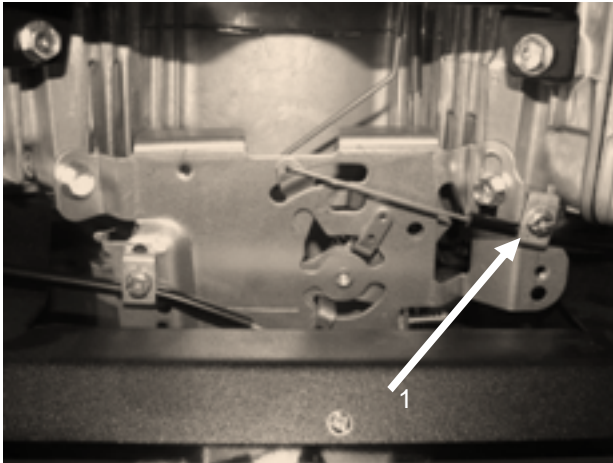

Figure 56
1. Using a 5/16 socket, loosen cable clamp end **Figure 56**.